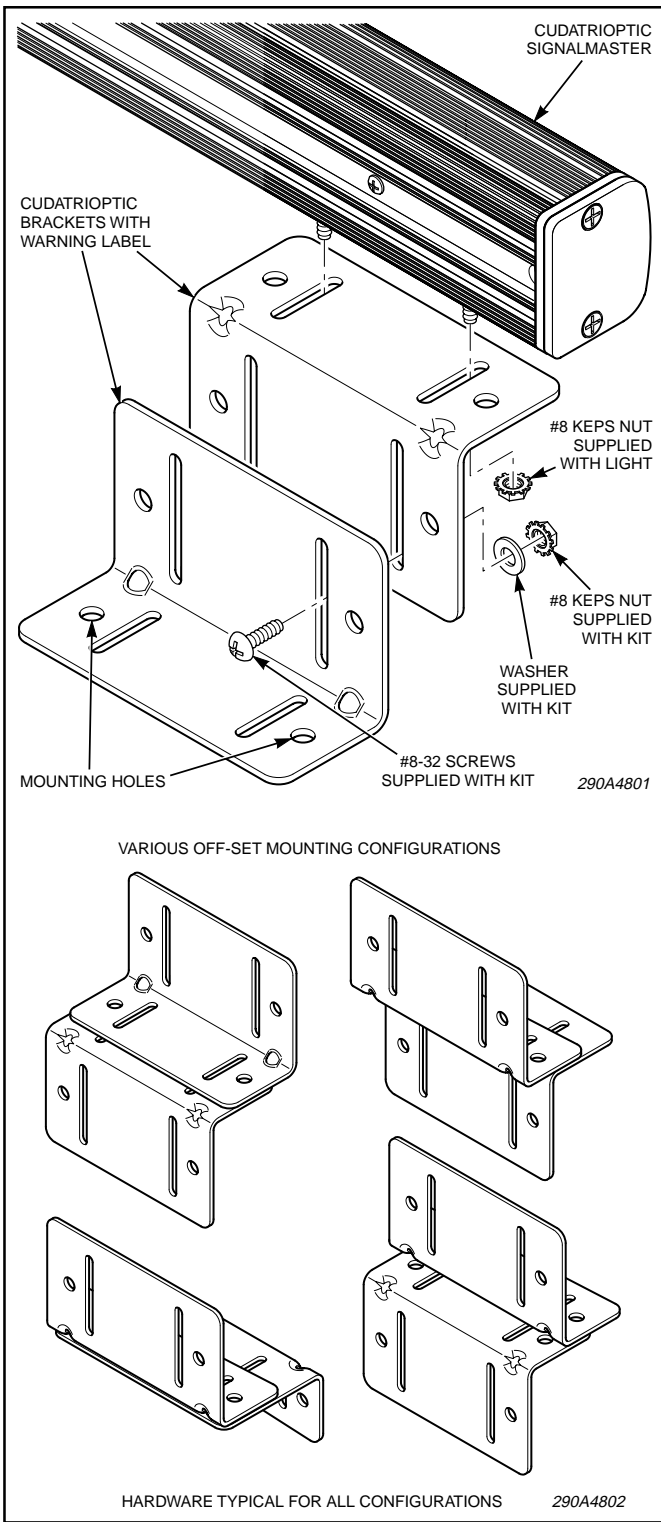

Figure 2.
1. The light unit is provided with a top, bottom, and two rear channels which accommodate two mounting screws (supplied with the light unit along with two keps nuts). Slide the mounting screws into the channel that accommodates the desired mounting configuration. Figure 2 shows various options for mounting bracket configuration.